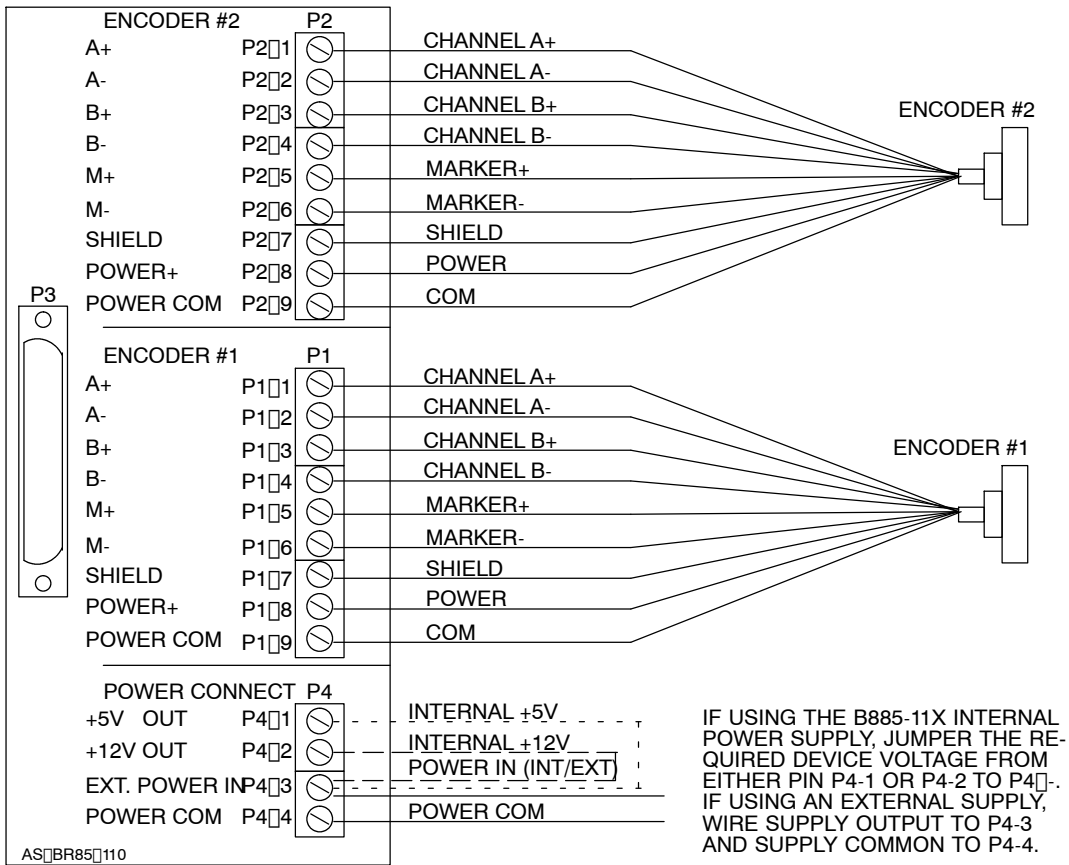

Figure 35 Channel A/B and Marker Signal Test Points on the Breakout Box
Step 1 Check the power output to the encoder, using a dc voltmeter. For encoder #1, measure the voltage between P1-8 (POWER+) and P1-9 (POWER COM). For encoder #2, measure the signal between P2-8 (POWER+) and P2-9 (POWER COM). The voltage should be either +5 Vdc or +12 Vdc, based on the requirements of the encoder device. Refer to Figure 35.